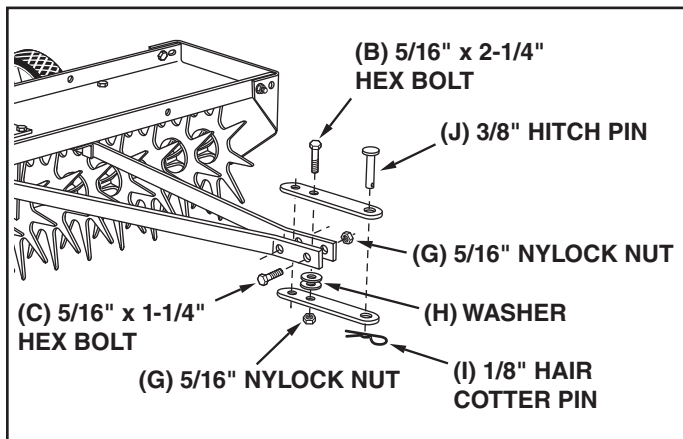

FIGURE 5 **FRONT VIEW**
8. Turn the aerator right side up and assemble the front ends of the hitch arms together using two 5/16" x 1-1/4" hex bolts (C) and 5/16" nylock nuts (G). **Do not tighten yet.** See figure 5.
9. Assemble the two hitch brackets to the top and bottom of the hitch arms using two 5/16" x 2-1/4" hex bolts (B), four washers (H) and 5/16" nylock nuts (G). **Do not tighten yet.** See figure 5.
10. Assemble the 3/8" hitch pin (J) through the hitch brackets and secure it with a 1/8" hair cotter pin (I). See figure 5.